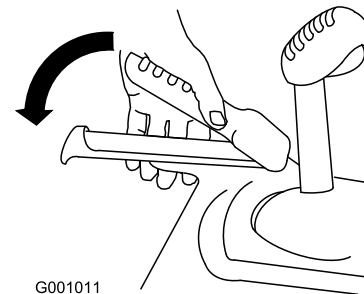

Figure 19
3. Squeeze the left (traction) lever to the handgrip (Figure 19).
6. Squeeze the left (traction) lever to the handgrip (Figure 19).